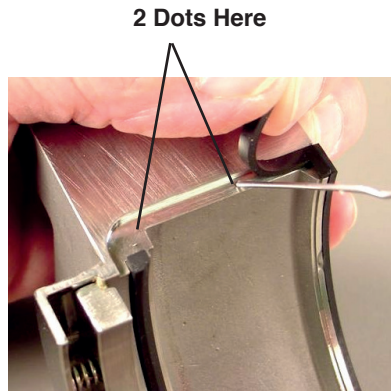

Figure 27
- 8.4 Apply two more dots of glue as shown in Figure 27.